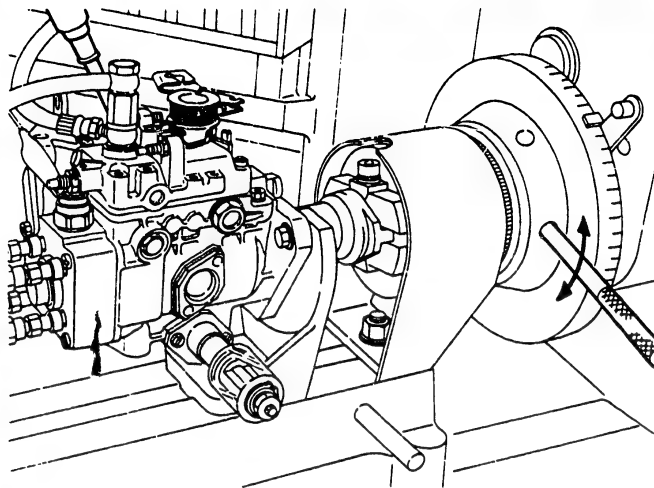

Fig. 161 **Setting the zero point**
5. While rotating the drive shaft ensure, using the measuring device, that the timer's stroke is zero (Fig. 161)